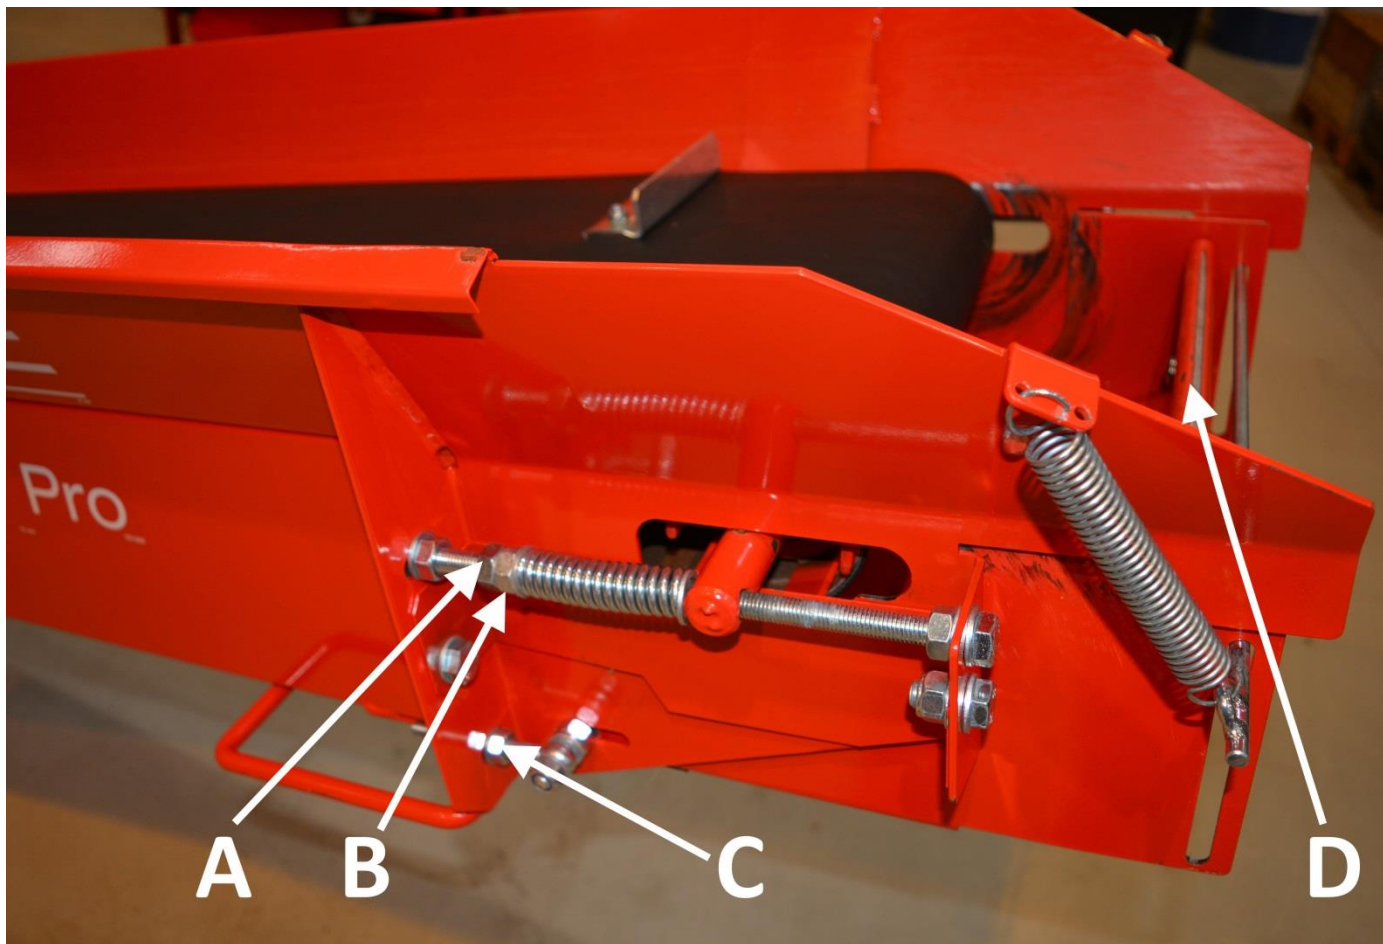

Figure 23.
1. Loosen fastening nut A (Figure 23).
2. Tighten/loosen the belt with nut B in Figure 23 (the same amount on both sides of the belt). If the belt is crooked, loosen nut B (in relation to the spring) on the side towards which you wish to align the belt better.
3. When the conveyor belt is at the correct tension and properly aligned, tighten the fastening nuts (A) on both sides.
The following things significantly affect the operation of the debris removal device: the angle of the out-feed conveyor, the speed of the belt and the distance of separation plate D (Figure 23) from the upper roller of the conveyor. In other words, the debris separation result is better the steeper the angle (however, no more than 40 degrees), the lower the speed and the longer the distance between separation plate D and the upper roller. The distance of separation plate D is optimised at the factory in conjunction with the testing of the machine. However, the adjustment can be changed with adjustment screw C (2 pcs, Figure 23), if necessary.